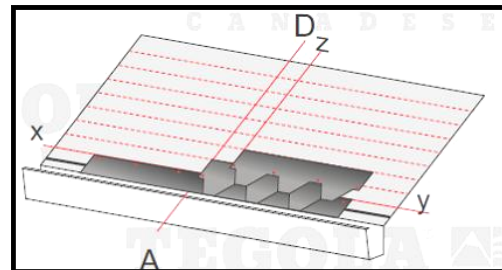

Fig H4
15. Install the first row of shingles along the line AD (Fig H4).